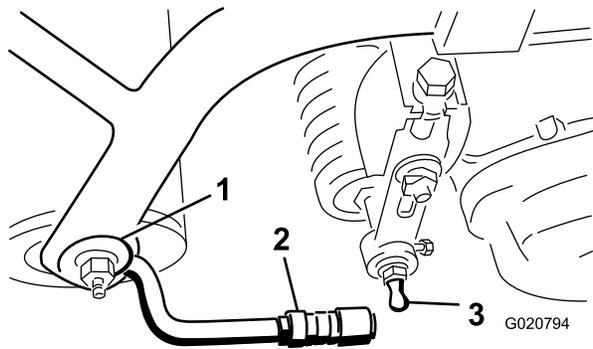

Figure 8
3. Slide the sleeve back on the ball joint receiver and hook the receiver onto the cutting unit ball stud. Release the sleeve so that it slides over the stud and locks the assemblies together (Figure 8).